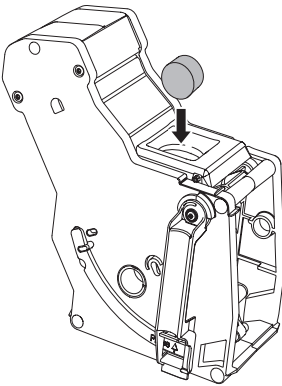

Fig. 17: Placing a cleaning tablet in the brewing unit.
7. Place the coffee grounds container beneath the outlet. 8. Remove the brewing unit without switching off the appliance. 9. Place a cleaning table in the brewing unit (see Fig. 17). Insert the brewing unit into the appliance.